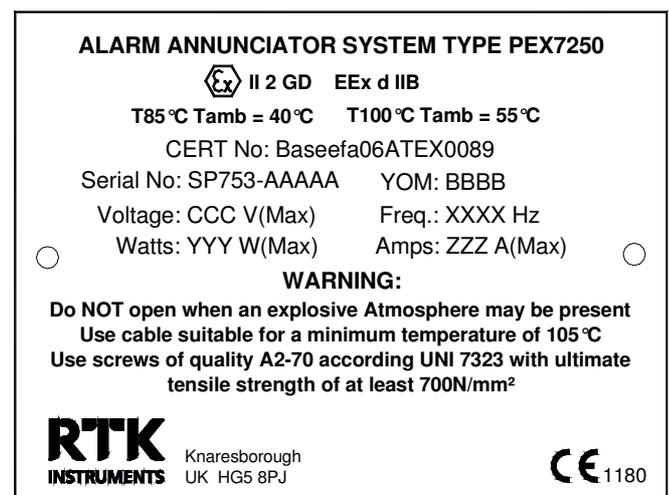

Figure 1: Certification label.
- Certification label (figure 1) showing all relevant certification information.